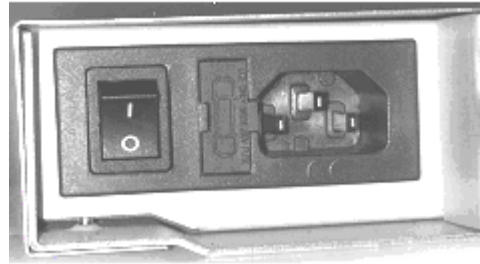

Figure 3.8 Main Power switch, fuse holder and power cord connection
2. Plug the power cable into the rear of the StorageLoader (see figure 3.8). Plug